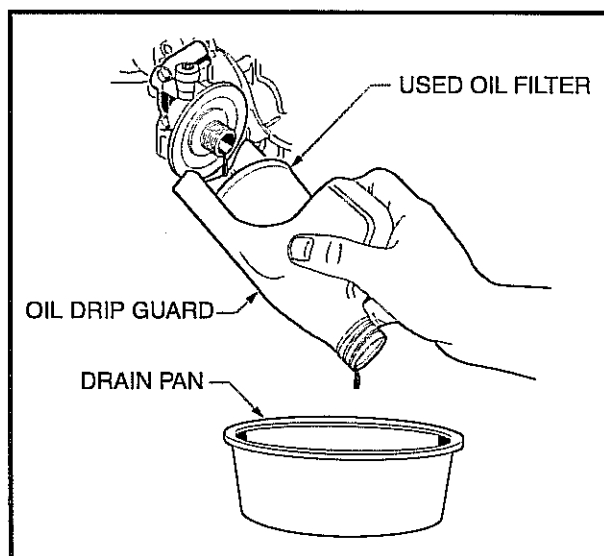

Figure 22 Remove Engine Oil Filter
**NOTE:** An oil drip guard can be used to prevent excess oil from dripping onto the engine base plate. Use an empty quart (liter) container and cut the bottom off at an angle, then slide the open area of the container up and under the oil filter before removal. Position the port of the plastic container so oil will be directed into the oil pan (**Figure 22**). A drip guard can be made by folding a piece of cardboard, thin metal, or plastic under the oil filter, forming a channel to direct the filter port oil into the drain pan.